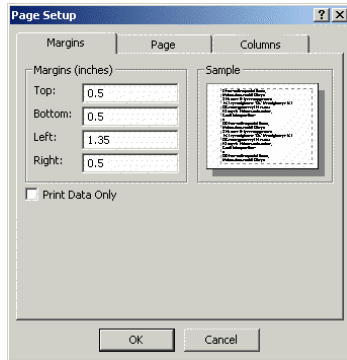

Figure 28 – Perforated Tube Project Book Margins Setup
2. Select the **Margins** tab and set the margins as shown in Figure 28.